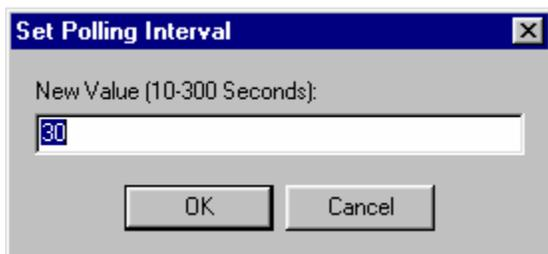

Fig. 9-4
- Choose **File > Set Poll Interval**, Figure 9-4. The CP Gateway polls for new instrument data to transmit to VistA. You can adjust the number of seconds between polling operations. Enter a value from 10 to 300 seconds. The new value becomes effective after the next polling operation so it may take up to 5 minutes for the new value to be used.